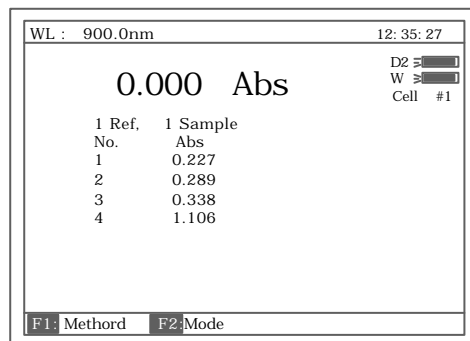

Fig 104
4. Press **【START】**. Automatically the reference is taken in cell NO.1, the 4 samples are taken in cell NO.2-NO.5. The results are displayed as Fig 104.